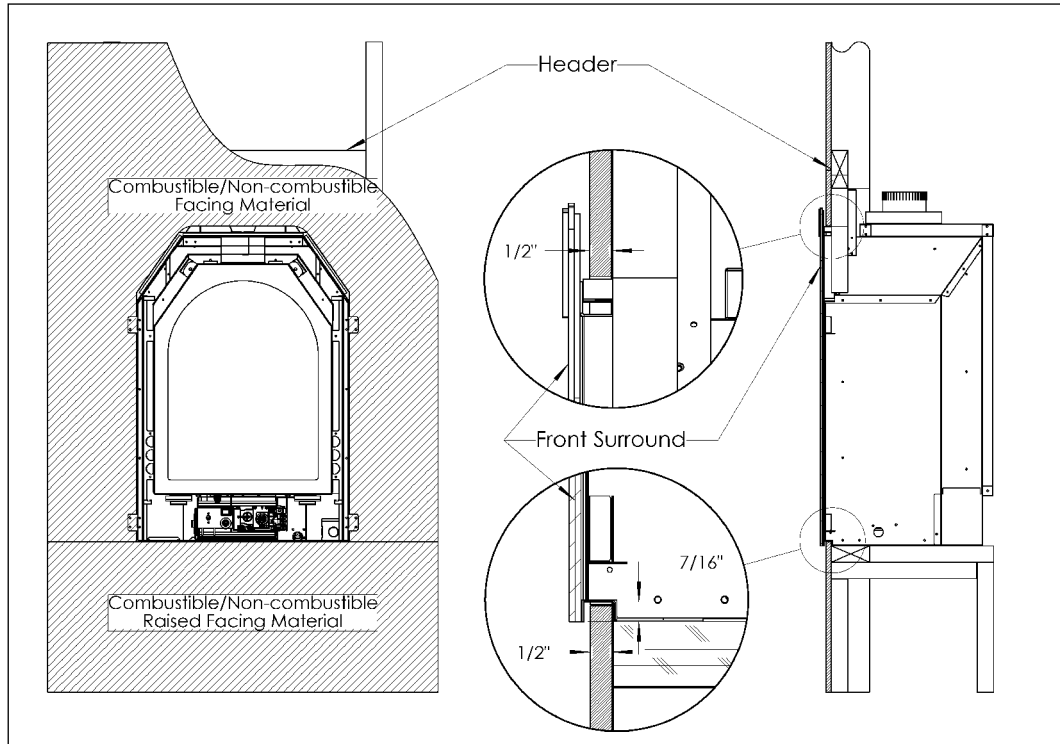

Figure 11 - Installation guide for 1/2" facing material.
**NOTE: Only one 2x4 stud/header may be used in the frame. Please refer to Figure 5 on page 4 or Figure 11 below.**